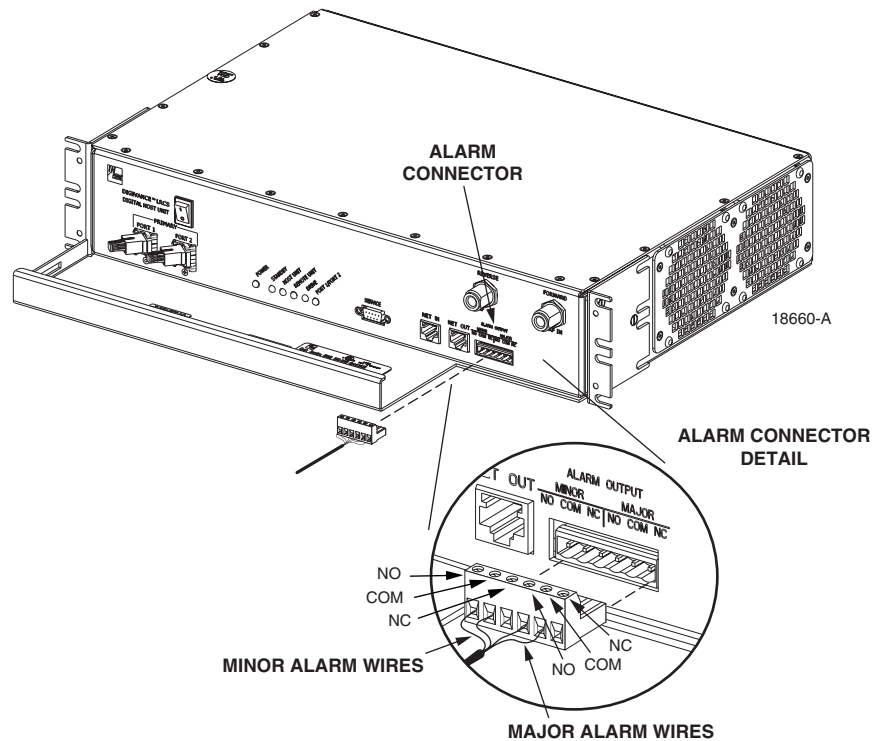

Figure 3-14. External Alarm System Connections
4. Connect the Major alarm wire pair to the MAJOR COM/NC or MAJOR COM/NO terminals (whichever is required by the external alarm system) on the HU alarm terminal connector (supplied with HU) as shown in Figure 3-14.
5. Connect the Minor alarm wire pair to the MINOR COM/NC or MINOR COM/NO terminals (whichever is required by the external alarm system) on the HU alarm terminal connector (see Figure 3-14).